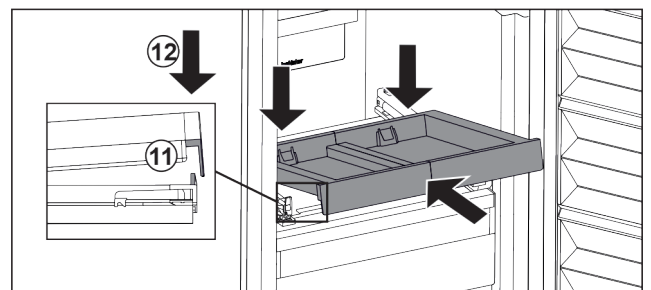

Fig. 22
- Slide in at an angle. Make sure that the stop is behind the lug on both sides. Fig. 22 (11)
- Lower the pull-out board at the front. Fig. 22 (12)